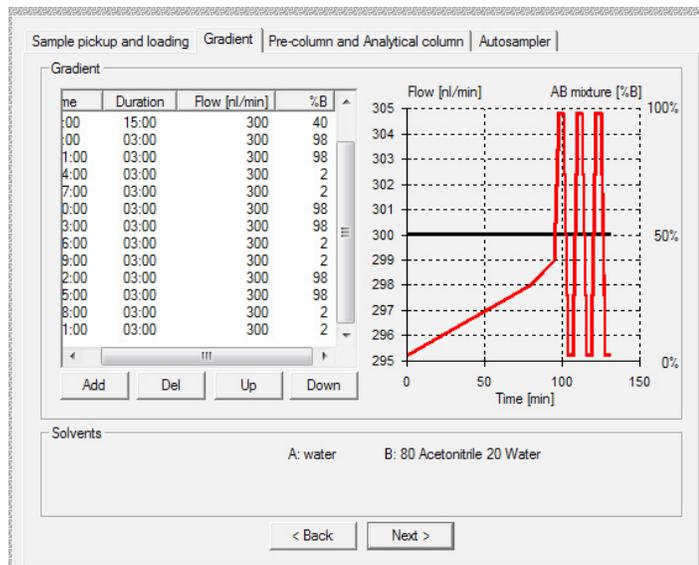

Figure 1. Cleaning gradient example
1. Build a short gradient using your standard elution system. To the end of the gradient, add a series of rapid increases and decreases in the amount of organic solvent steps creating the see-saw cleaning gradient. See example (Figure 1).